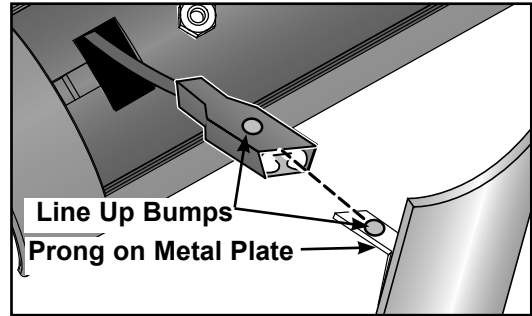

Figure 38
- B. Locate the small bump on the metal contact prong and on the connectors. See Figure 38.
- C. Connect the each cable to a metal prong with the bumps lined up. See Figure 38.